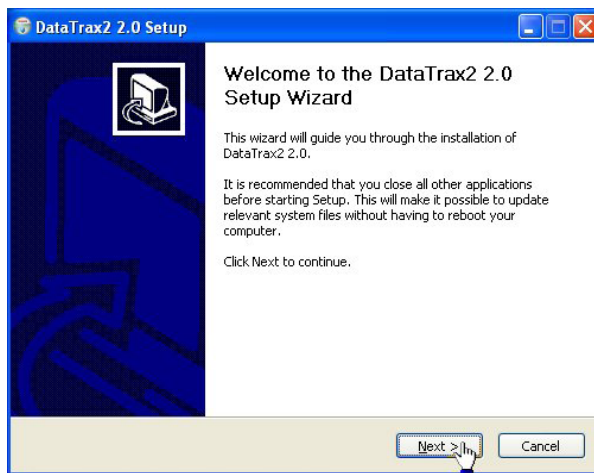

Fig. 19—Setup Wizard
1. Insert the LabScribe CD. It should begin automatically. If not, open **Windows Explorer** and navigate to the CD. Double click on LabScribeXXX.exe (or the latest version of the file). The **Setup Wizard** displays (Fig. 19).